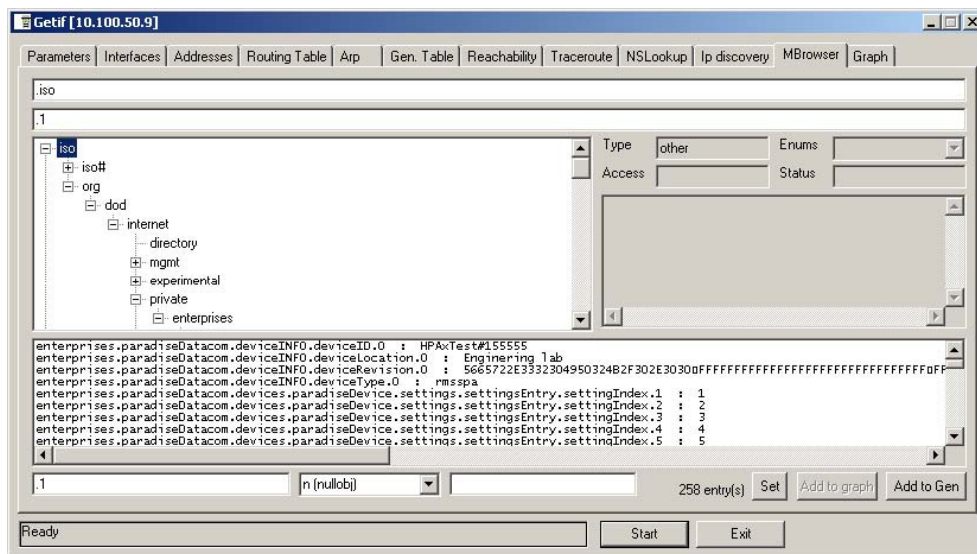

Figure 11: Getif MBrowser Window, Assign settingValue.5 to a Value of '1'
6. See update data in output data box (Figure 11).